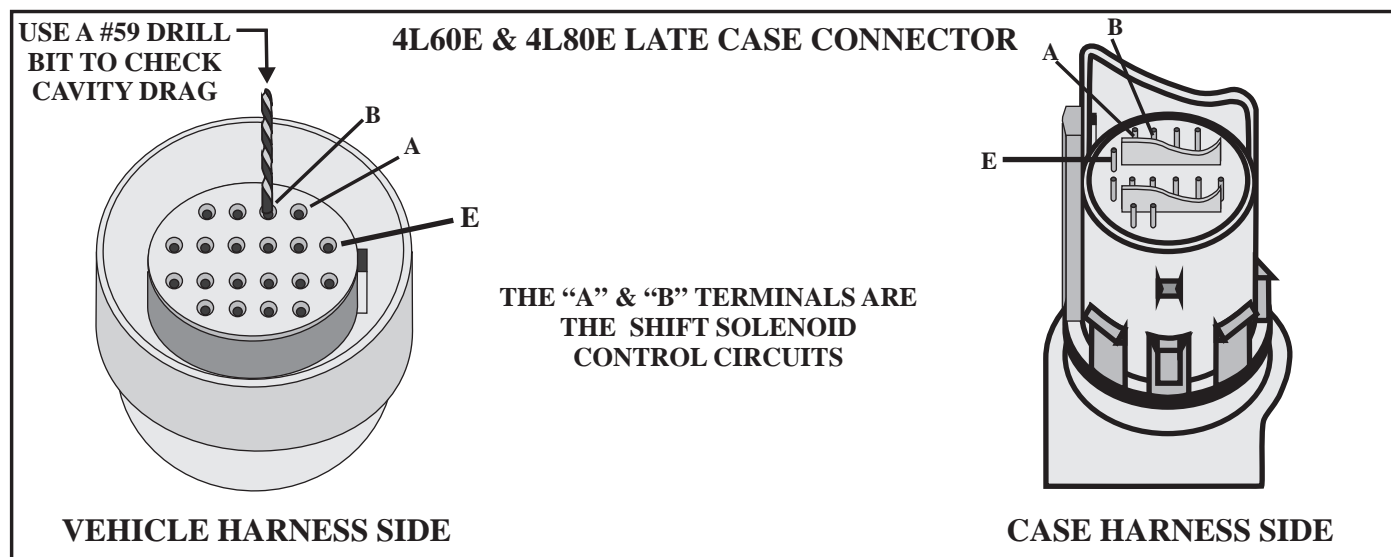

Figure 123
- When disconnecting the case connector plug from the transmission, the plug may be wiggled sideways to get it unplugged. This can cause expansion of the female cavities in the vehicle connector as well as bent pins in the case connector. The female cavity can be checked for size by using a #59 wire gauge drill bit as shown in Figure 123. The drill bit measures .041" and a firm drag on the drill bit should be felt. Make certain all male pins are not bent, broken or pushed back into the plastic connector. Kent-Moore Tool J-39775 can be ordered which is a test harness and comes with adaptors that can check the drag on both the female cavities and the male pins in the connectors.